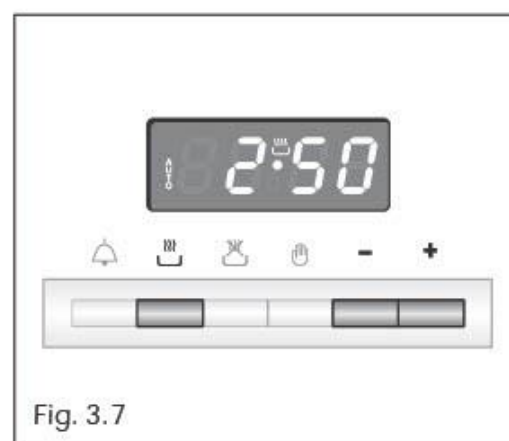

Fig. 3.7
1. Set the length of the cooking time by pushing the button and the button to advance, or to go backwards if you have passed the desired time (Fig. 3.7).